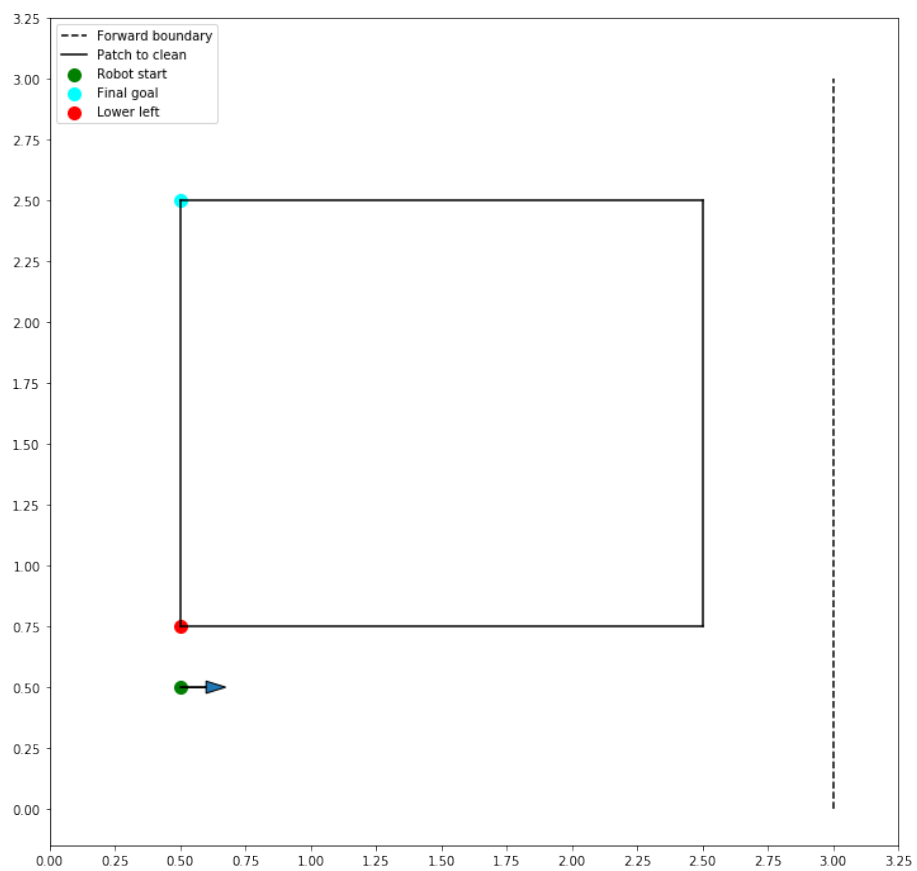

Figure 2: How to clean a patch of floor
1. Suppose that you want to clean a rectangular patch of floor as shown in Figure 2. You need to give the lower-left point of the patch and the end point (final goal) as the input. Note that this end point must be the top-left point of the patch.
2. Place the robot 0.25m below the lower-left point, facing in the direction as shown in Figure 2.
The PiCar Vacuum can cover 100% of a rectangular area that has at least 0.5m distance from the forward boundary (see Figure 2), 0.25m distance below the